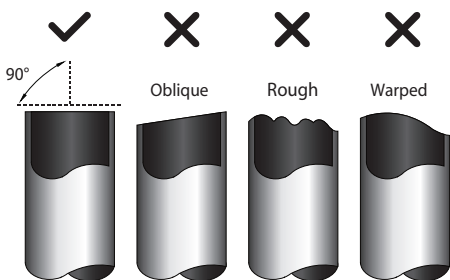

Fig. 7.2
1. Make sure that the pipe is cut at a perfect 90° angle. Refer to Fig. 7.2 for examples of bad cuts